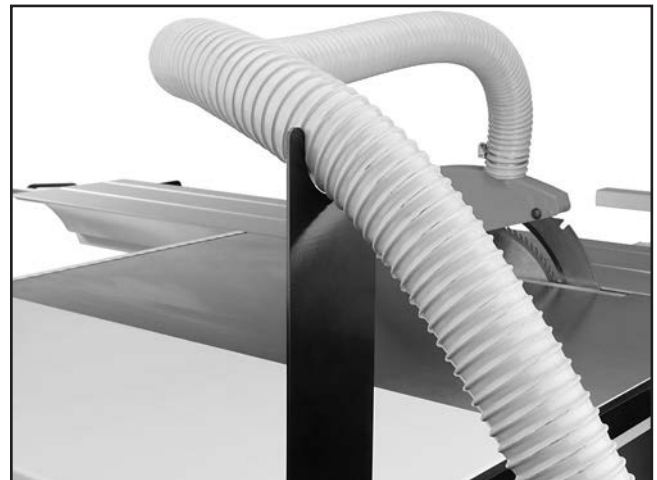

Figure 59. Dust hose support in use.
58. Run the 2½" hose over the hose support, as shown in Figure 59.